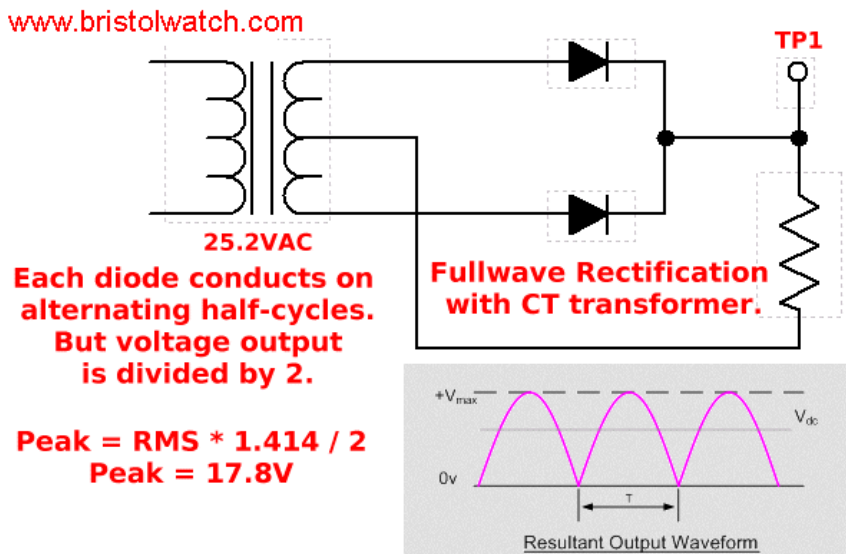

Figure 5
Figure 5 above illustrates another method to obtain full-wave rectification. In this case we use a center-tapped transformer and two diodes. In using the center-tap (C) as a common, the voltage A and B is 180 degrees out of phase. When A is positive, D1 will be forward biased and conduct, while B will be negative thus reverse-biasing D2, while is non-conductive. On the negative half cycle in relation to A when D1 doesn't conduct, D2 will conduct.